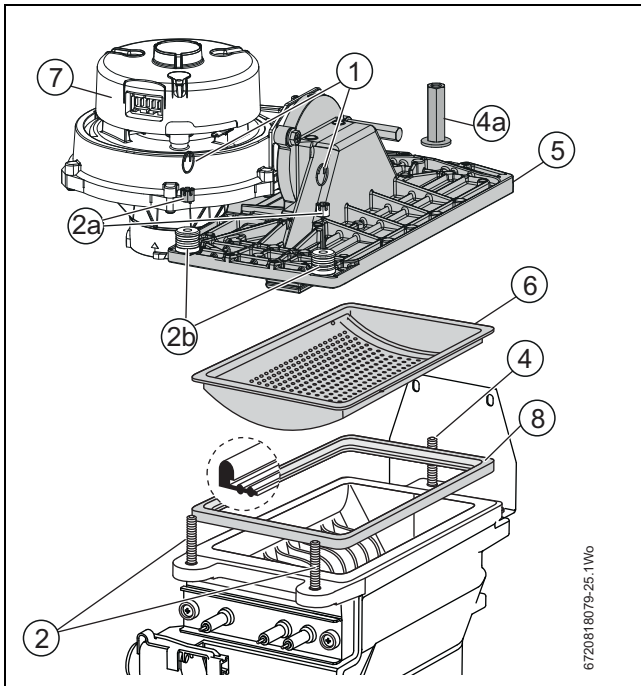

Fig. 48 Burner removal
- Refer to figure 48 and re-assemble the burner in reverse order
- Assemble the washers/ spring [2b], and castellated nuts [2a], refer to figure 48, on to the studs [2] to secure the burner cover to the heat exchanger.